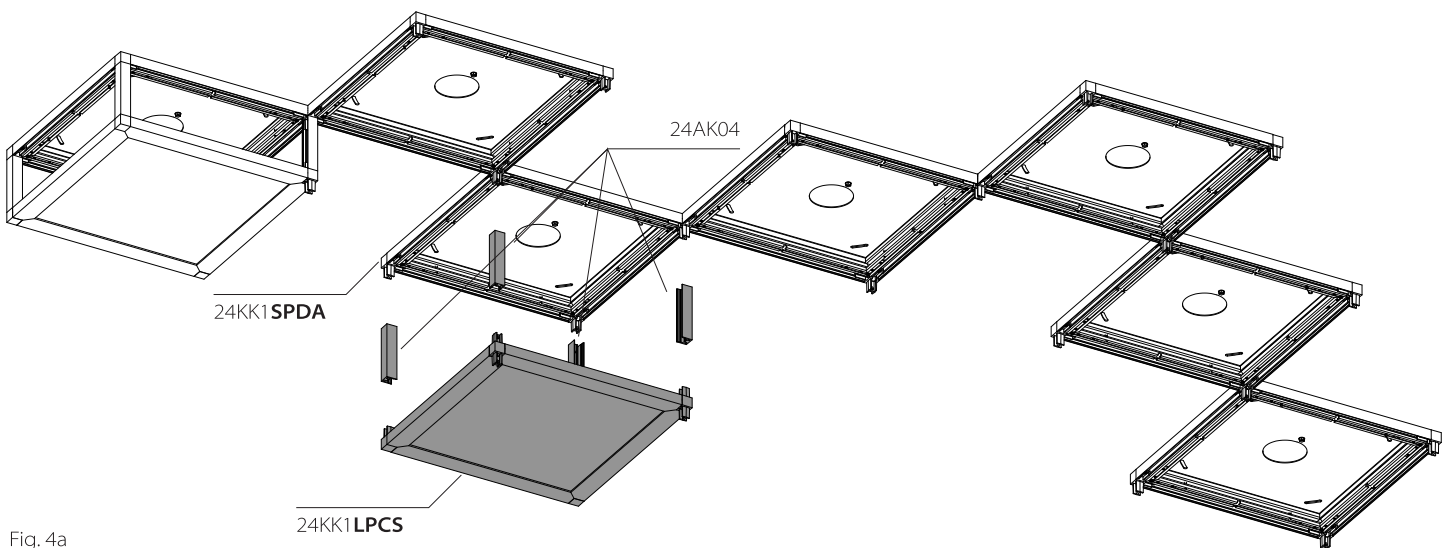

Fig. 4a
- 9a. Install (4x) 24AK04 to 24KK1 **LPCS** using countersunk screws in the orientation shown in Fig. 4a.